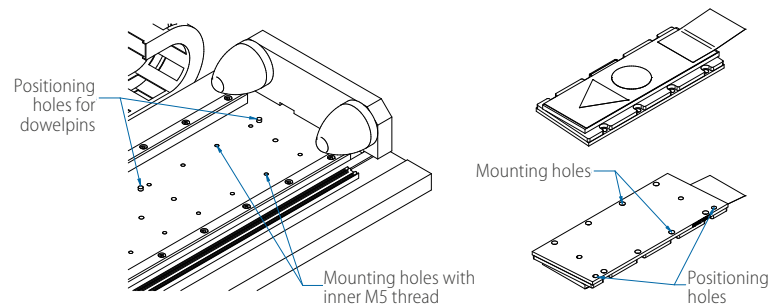

Figure 4.7: Positioning and mounting holes in magnet plates and axis.
2. Apply the dowel pins in the mounting frame, see figure 4.7 for the correct position. The total height of the dowel pins above the mounting surface should be maximum 3 mm.